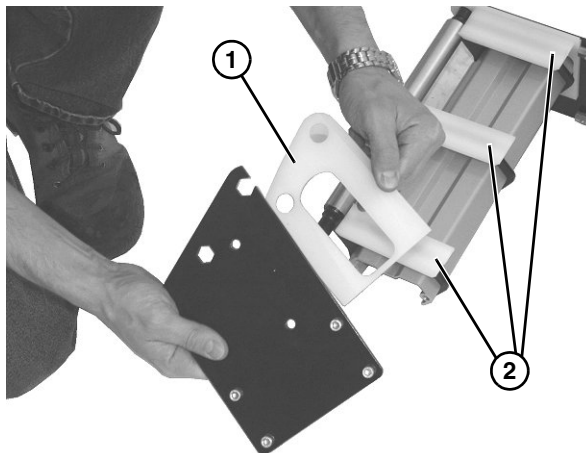

Figure 59
11. Check idler terminal assembly on each side (**Figure 59, item 1**) for wear. If worn, replace.
12. Remove and replace wear guides (**Figure 59, item 2**) if worn. When replacing, secure onto pins on each support plate.